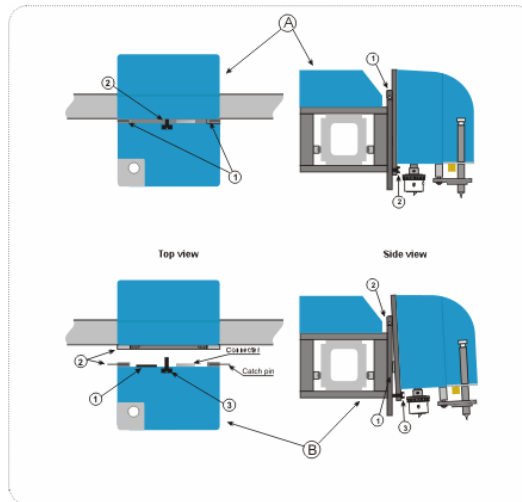

Figure 7 – Removal of the toolhead.
The removal of the toolhead is given on Figure 7, A and should be performed in the following sequence:
- Unscrew the holding pins from the hinges of the carriage and remove them – Figure 7, A, Step 1;
- Unscrew the fixing screw and remove the toolhead – Figure 7, A, Step 2.
The installation of the toolhead is given on Figure 7, B and should be performed in the following sequence:
- Remove the protective sticker from the ribbon gasket – Figure 7, B, Step 1;
- Place the holding pins inside the openings of the hinges and screw them in – Figure 7, B, Step 2;
- Fasten the toolhead to the carriage with the fixing screw – Figure 7, B, Step 3.